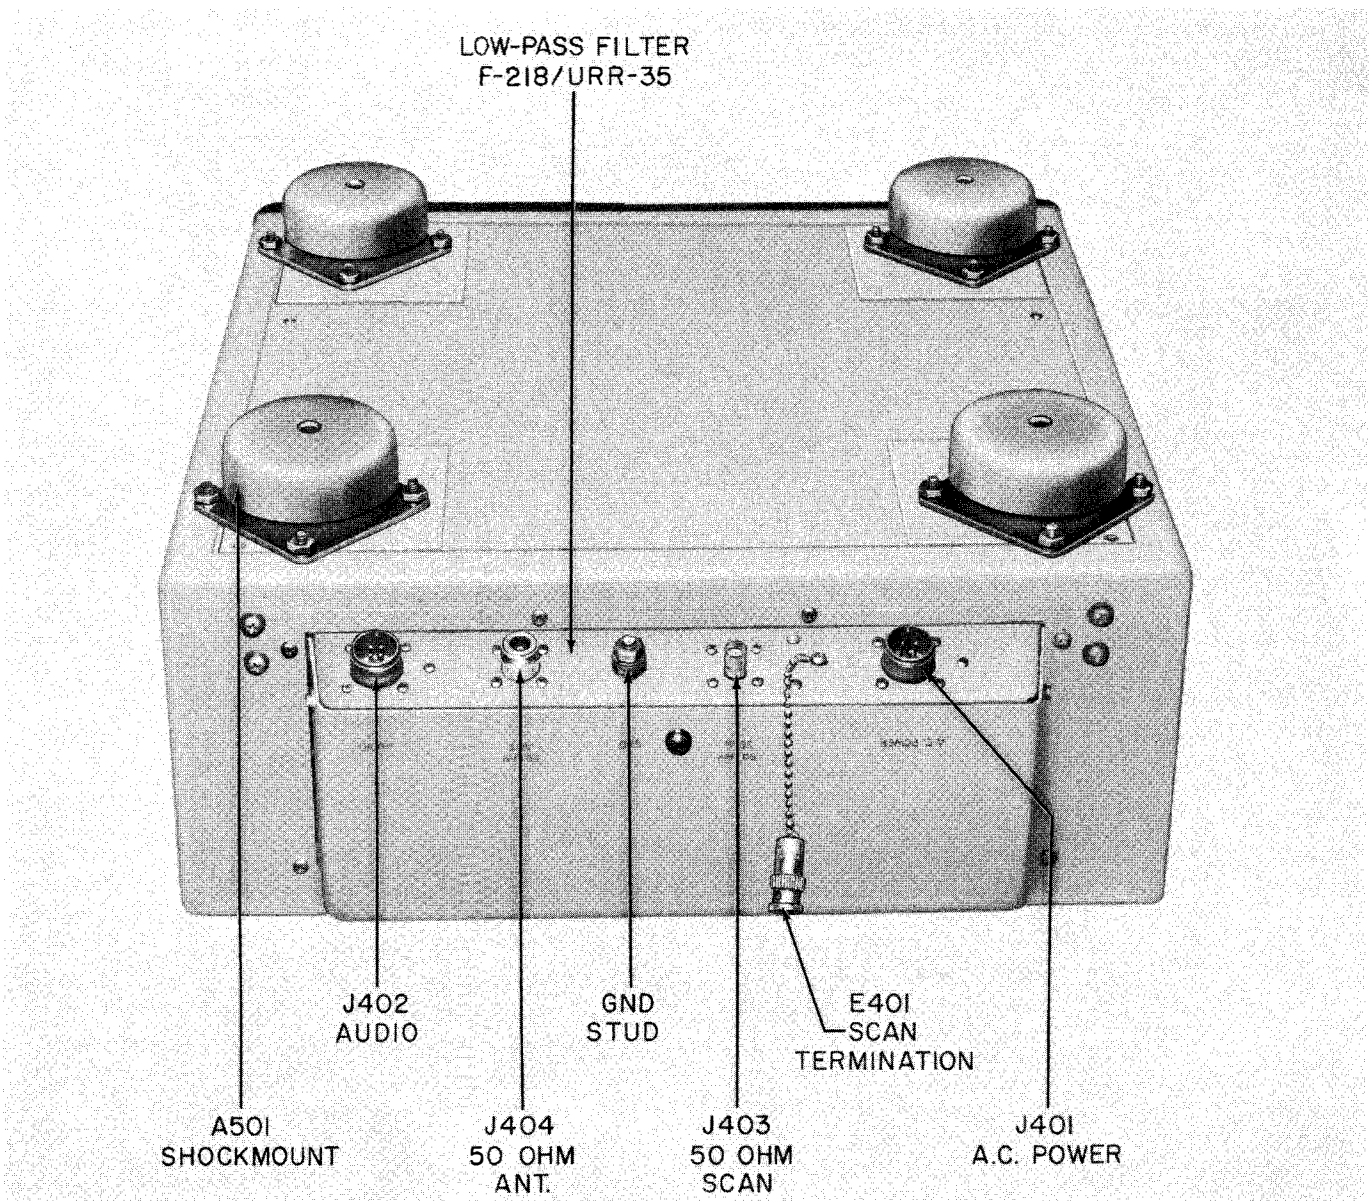

Figure 1-3. Radio Receiver R-482A/URR-35, Rear View (Upside Down) Showing Low-Pass Filter F-218/URR-35
g. LOW-PASS FILTER F-218/URR-35.—The low-pass filter is shown in figure 1-3. It contains r-f noise-filter circuits for the audio output and power input circuits, and provides through connections from the receiver proper to the antenna input and scan-channel output circuit connectors. The filter parts are mounted on a base plate which is attached to the rear wall of the receiver cabinet by means of snap-slide fasteners located on the inside of the cabinet. The filter cover,
When the scan channel is not in use, scan-channel termination E401 must be connected to the 50 OHM SCAN connector (J403); see figure 1-3. Mounted inside of the termination is a 47-ohm resistor which terminates the r-f cable between J403 and J201 in its approximate characteristic impedance, thus preventing radiation from this cable.